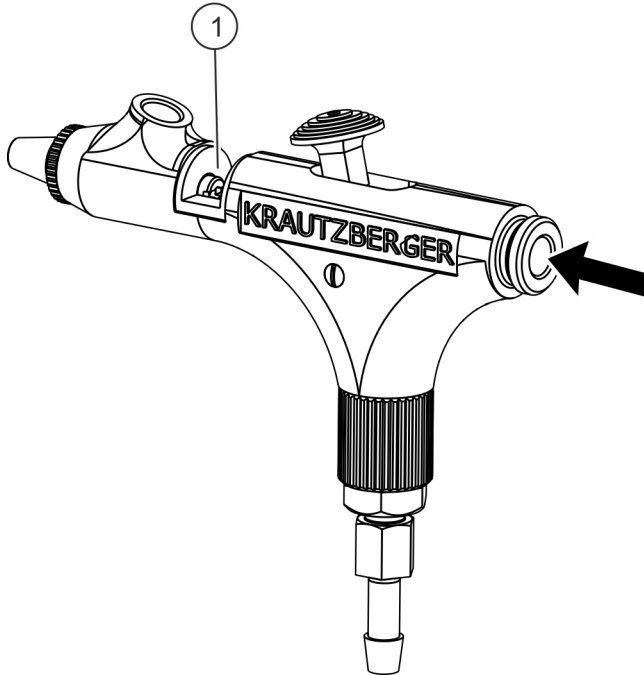

Fig. 9: Changing the seals
6.  Unscrew sealing screw (Fig. 9/1) with suitable screw driver through the needle guide (Fig. 9/arrow).